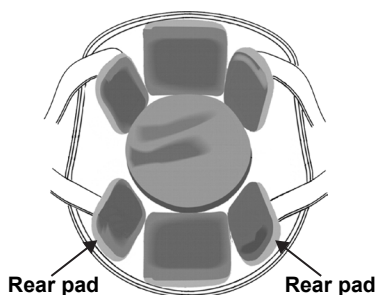

Figure 22. Pads to Remove
1. Referring to **Figure 22**, remove the rear pads as necessary to reach the attaching hardware of the retention assembly on the inside of the helmet, noting the position of the pads.
3. Referring to **Figure 22**, reinstall the rear pads in the positions from which they were removed.